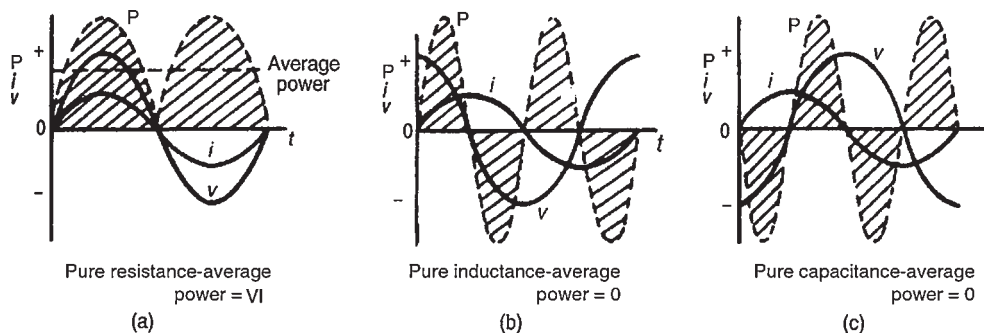

Figure 15.23
In Figs 15.23(a)–(c), the value of power at any instant is given by the product of the voltage and current at that instant, i.e. the instantaneous power, $p = vi$, as shown by the broken lines.
- (a) For a purely resistive a.c. circuit, the average power dissipated, P , is given by: $P = VI = I^2R = V^2/R$ watts (V and I being r.m.s. values) See Fig. 15.23(a)
- (b) For a purely inductive a.c. circuit, the average power is zero. See Fig. 15.23(b)
- (c) For a purely capacitive a.c. circuit, the average power is zero. See Fig. 15.23(c)